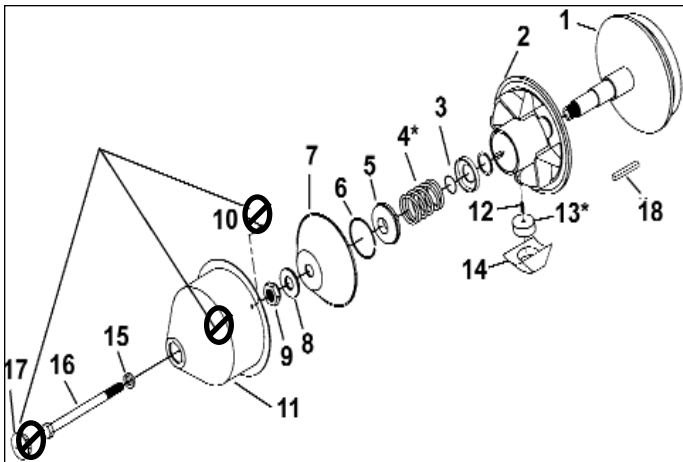

Figure 2 - Primary Drive Assembly
1. Remove jam nut, washer, and straight cap (Figure 2, # 9, 8, & 7).
2. Lift centrifugal blocks, weights and springs from three positions in sliding half pulley (Figure 2, #12, 13, & 14). Remove weight(#13) and anti-noise spring (#12) from centrifugal block (#14).
3. Slip sliding half pulley from fixed half pulley and shaft (Figure 2, #2).
4. Using an arbor press, hold the plastic bushing down in sliding half pulley to remove retaining ring (Figure 2, # 5 & 6). Carefully, release pressure from plastic bushing, allowing spring tension to be released. Remove plastic bushing, spring, and shoulder washer. Note the location of any shims which might be found in the sliding half pulley or on the fixed half pulley shaft.
1. Insert shoulder washer, spring, and plastic bushing into sliding half pulley. Using an arbor press, press spring and plastic bushing into place. Holding plastic bushing and spring in place, insert retaining ring. Carefully, release pressure, and check that retaining ring is properly seated. See Figure 2.
2. Insert woodruff key into crank shaft key slot (Figure 2, #18).